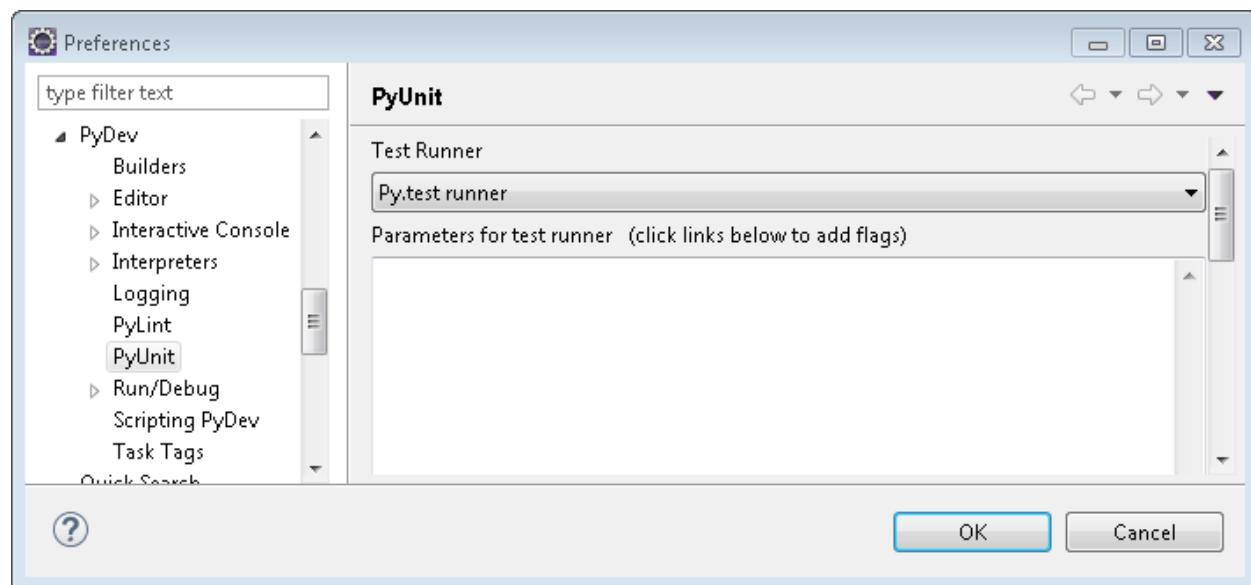
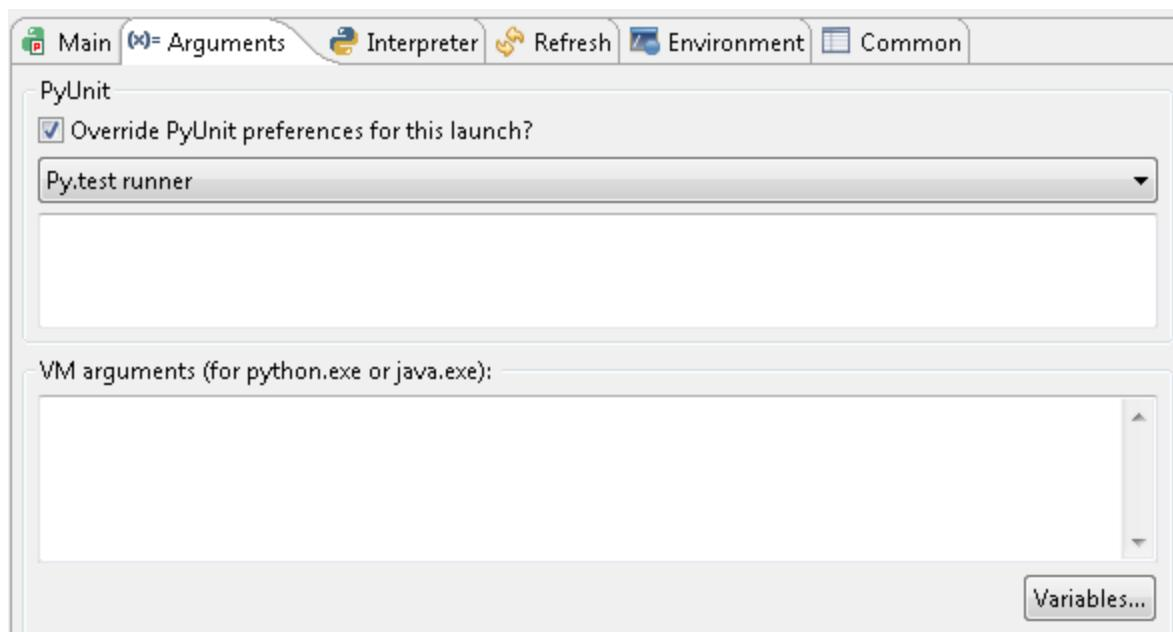

Figure 39 Global PyUnit test configuration
Figure 40 Run Configuration for individual tests
Note: When configuring the PyUnit Test Runner in Eclipse, an optional parameter called verbosity is included by default. This parameter must be removed. See Figure 39 and Figure 40.
5. The console window will open and run the tests. The test output from a successful run will be similar to Figure 39.